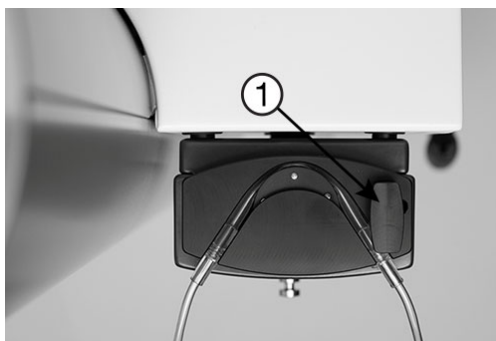

Figure 32 – Locking the pump head
Lock the pump head by turning the handle (1) clockwise – see Figure 32.